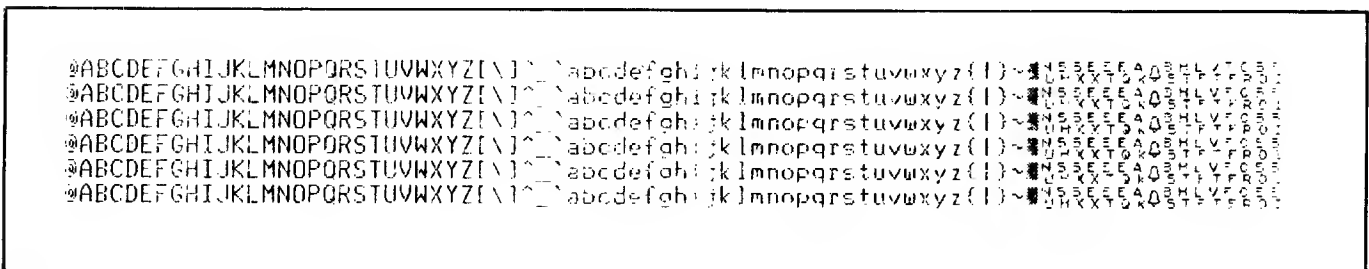

Figure 6-5 TPM Local Self-Test Pattern - TPM PCA equipped with 1818-0763 character ROM
5. Allow the test to continue until the printer error is firmly established by checking the print-out (check with figure 6-5 or 6-6 for the missing or faulty characters).